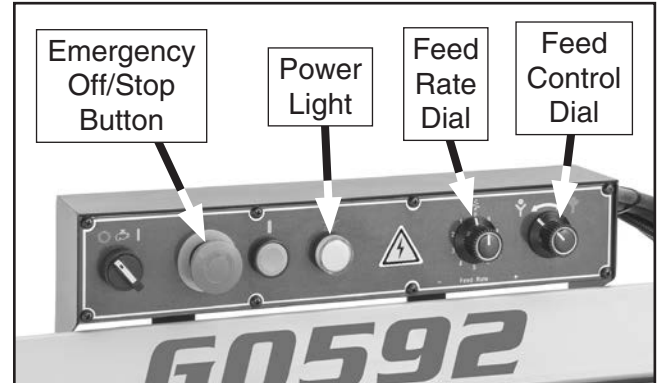

Figure 19. Initial power controls.
2. Use headstock handle to raise headstock all the way up, then turn feed control dial all the way right (see **Figure 19**).
3. Turn feed rate dial to "1" (see **Figure 19**).
4. Press Emergency Stop/Off button (see **Figure 19**).
5. Connect machine to power by inserting power cord plug into matching receptacle; power light will illuminate (see **Figure 19**).